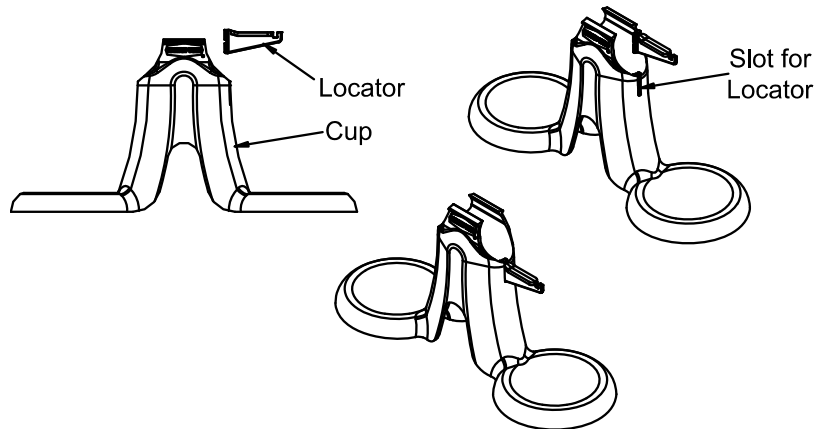

Figure 17. Advanti-Flow Cup Installation
1. Install the locator to the cup as shown, See **Figure 17**.